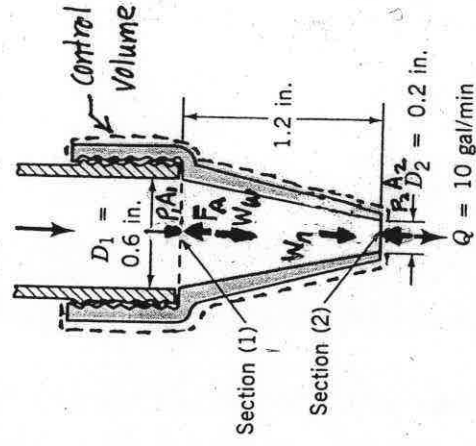

FIGURE P5.2.3
5.2.3 Determine the anchoring force required to hold in place the conical nozzle attached to the end of the laboratory sink faucet shown in Fig. P5.2.3 when the water flowrate is 10 gal/min. The nozzle weight is 0.2 lb. The nozzle inlet and exit inside diameters are 0.6 and 0.2 in., respectively. The nozzle axis is vertical and the axial distance between sections (1) and (2) is 1.2 in. The pressure at section (1) is 68 psi.